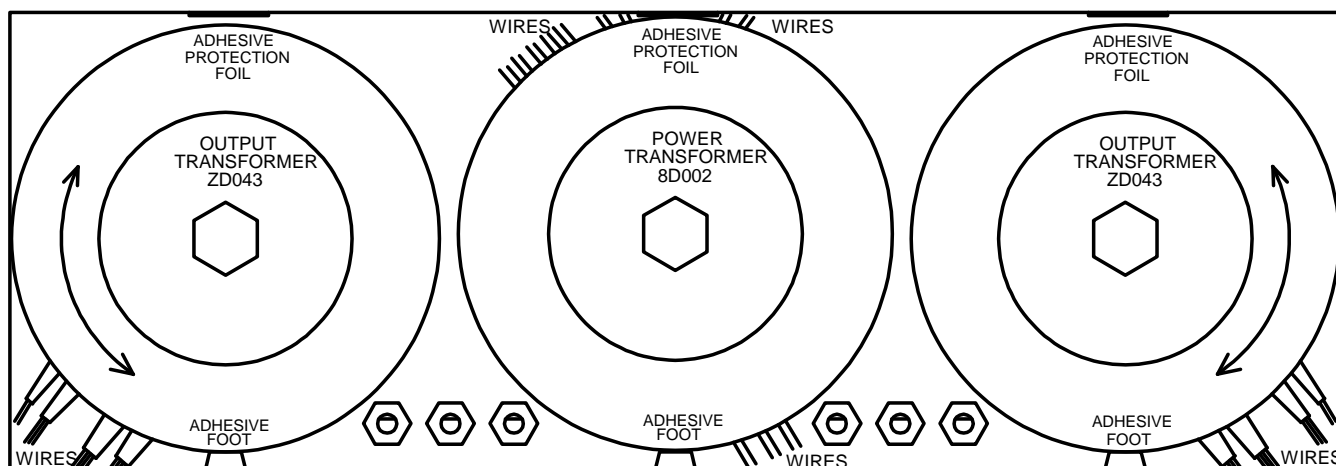

FIG 6
Also stick a piece of insulating foil on the inside edge of the cabinet above each place where a transformer has to be put (see fig. 6).
- ◇ Mount the supply transformer in the middle of the cabinet. Ensure that the leads are positioned as shown in the figure 6. The thick grey and green wires must be at the highest point.
- ◇ Mount an output transformer along the right-hand side of the housing, see figure 6. Check the position of the wires.